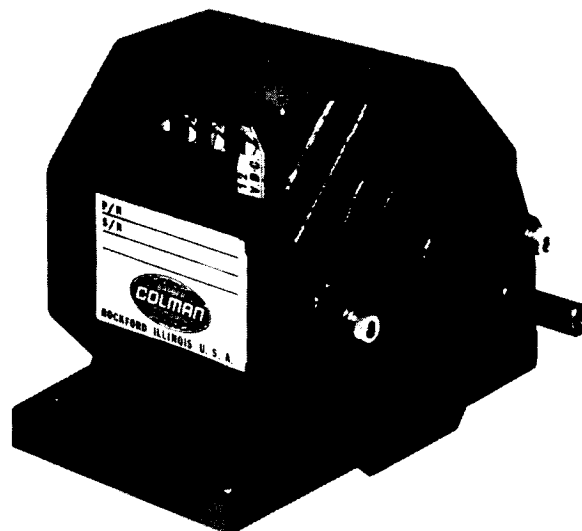

FIGURE 9-17. ELECTRONIC GOVERNOR ACTUATOR
**Actuator:** The Actuator (Figure 9-17) controls the injection pump throttle lever. It receives input from the Controller, which in turn receives input from the MPU. A few operational checks can establish a functioning unit as follows: